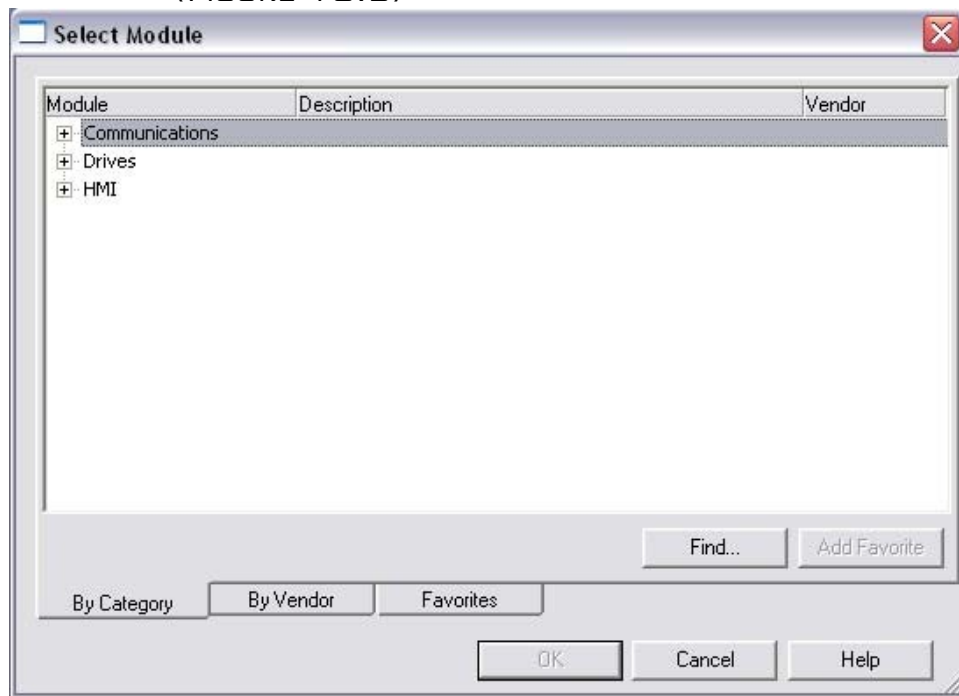

FIGURE 10.2
C. SELECT THE COMMUNICATIONS MODULES AND OPEN THE LIST BY CLICKING ON THE PLUS (+) SYMBOL. (FIGURE 10.2)